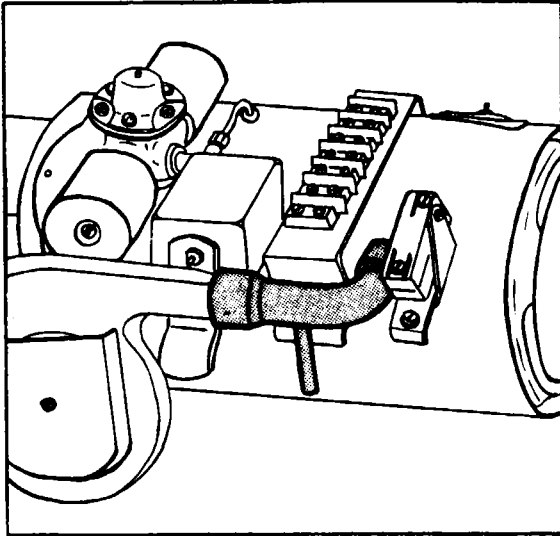

Figure 13-21. Combustion Air Blower Check
- b. Install the elbow furnished with the test stand between the blower and exchanger. (Refer to Figure 13-21.)